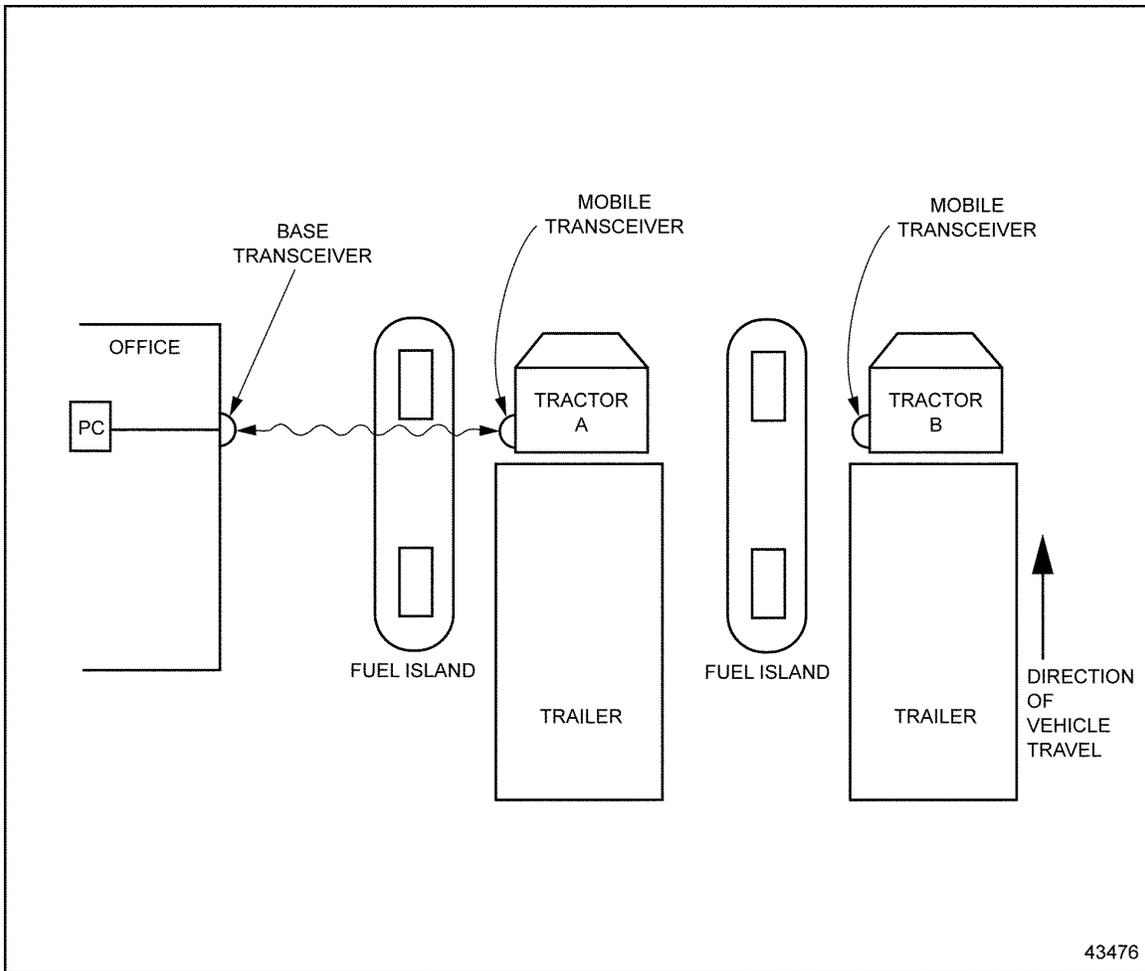
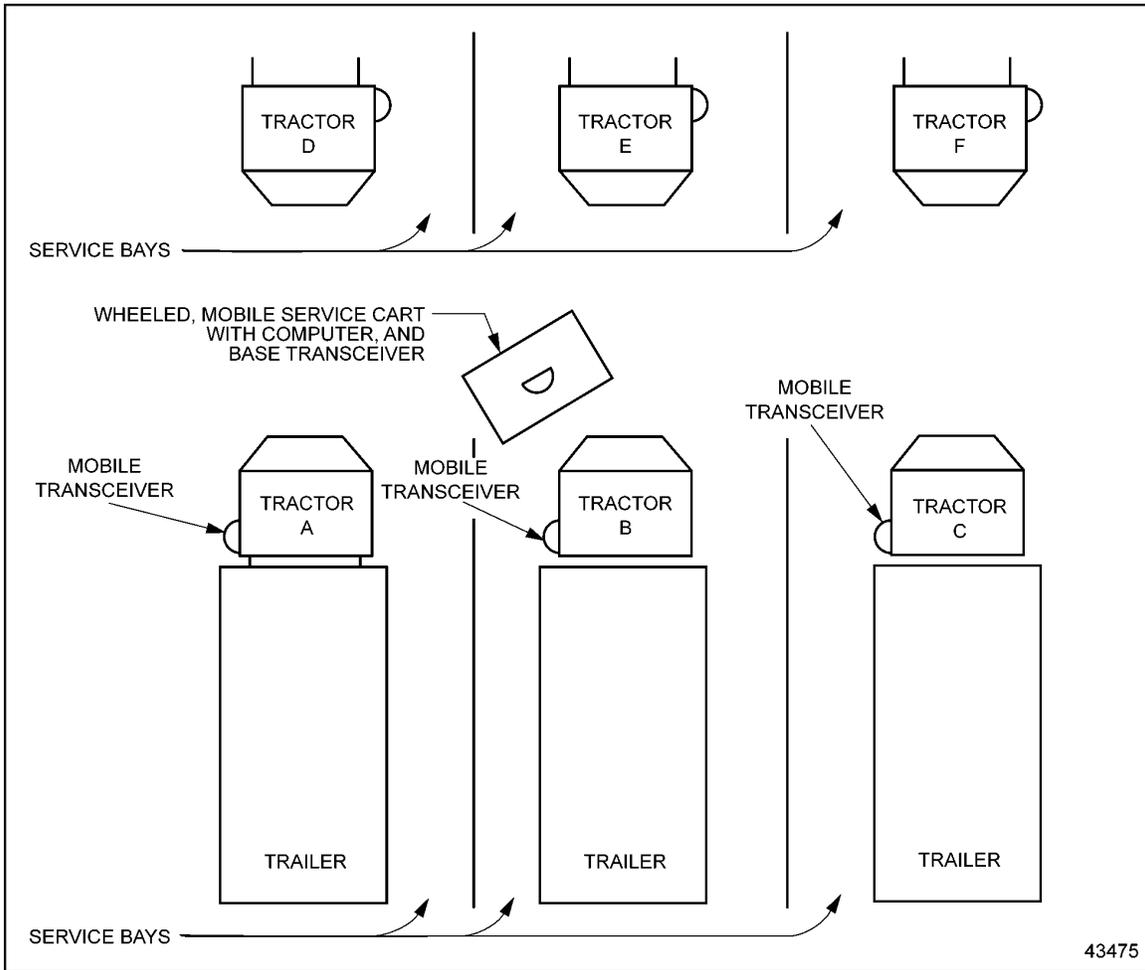

Figure 5 One Base Transceiver, Multiple Lanes – Example 1
Figure 6 One Base Transceiver, Multiple Lanes – Example 2
- ❑ One Base Transceiver covering multiple lanes; only one vehicle is serviced at a time. See Figure 5 and Figure 6.
Only one vehicle is serviced at a time. The communication link must break with Tractor A before Tractor B is located. See Figure 5.
Only one vehicle is serviced at a time. The communication link must break with Tractor B before Tractor A or C is located. Multiple mobile service carts would provide simultaneous servicing of multiple lanes. See Figure 6.